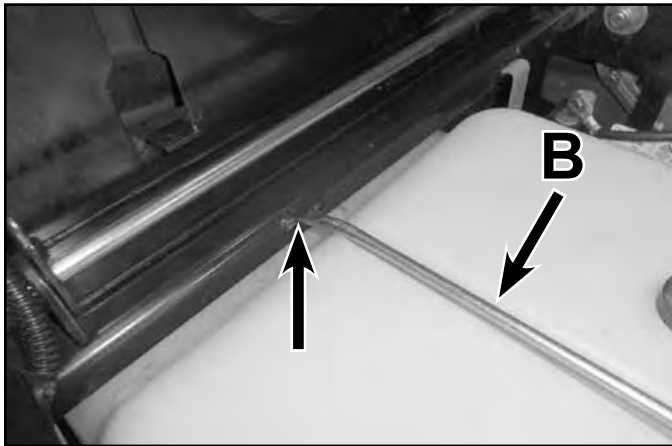

Fig. 013
2. Install the (2) bolts and nuts that secure the seat support (E) to the frame brackets and torque to specification – 17 ft-lbs. (23 Nm).
3. Install the fuel tank retaining rod (B) and torque retaining bolt to specification – 8 ft-lbs. (11 Nm). Be sure the front rod end is engaged into the control box assembly (Fig. 013).